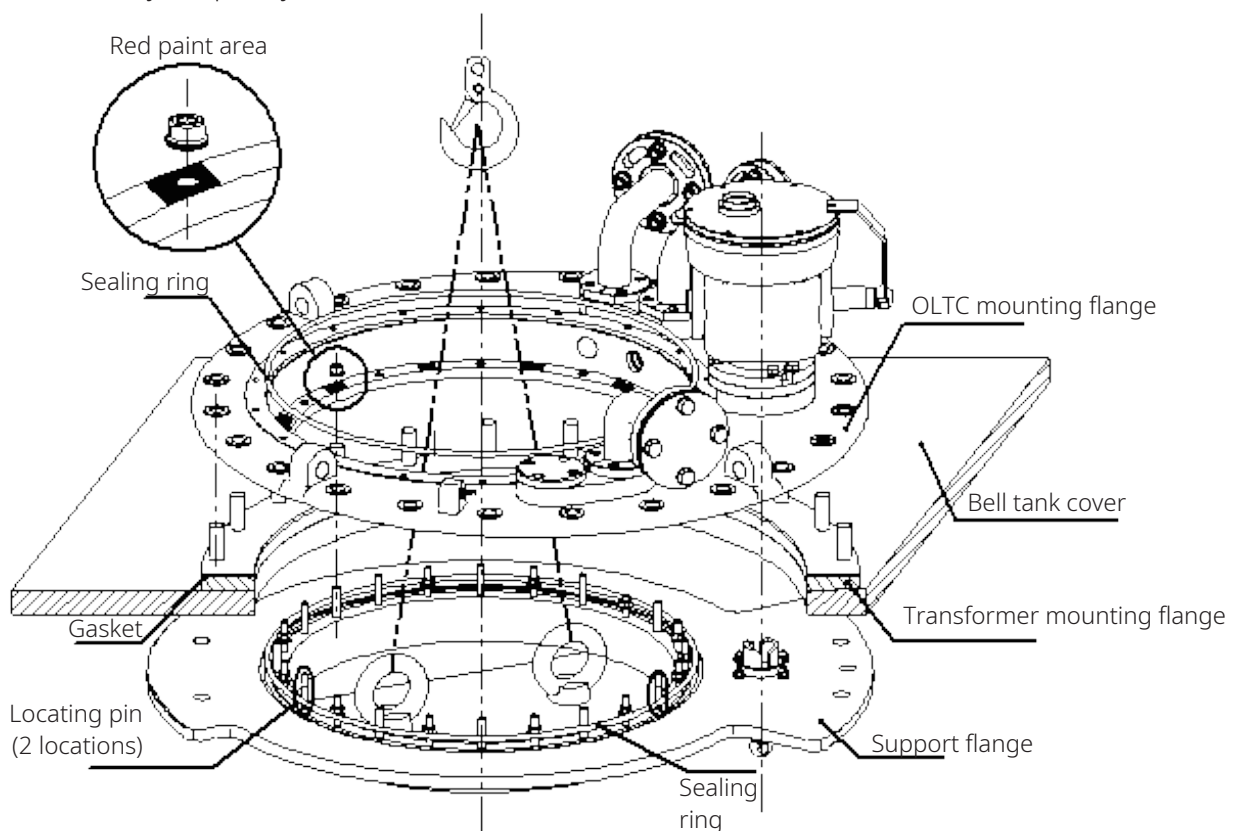

Figure 5-14 Diagram of the OLTC Flanges and Transformer Cover
- Once aligned, install nuts on the bolts in the red marked area of the flange (thirteen M8 nuts with washers, use a 13mm wrench). Tighten the nuts sequentially (see Figure 5-14).